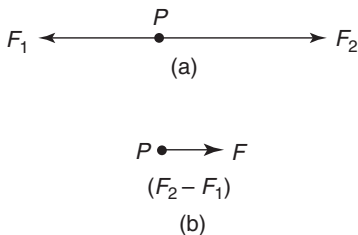

Figure 3.6
- (b) For forces acting in opposite directions along the same line of action, the resultant force is the arithmetic difference between the two forces. Forces of  $F_1$  and  $F_2$  acting at point  $P$  as shown in Figure 3.6(a) have exactly the same effect on point  $P$  as force  $F$  shown in Figure 3.6(b), where  $F = F_2 - F_1$  and acts in the direction of  $F_2$ , since  $F_2$  is greater than  $F_1$ .